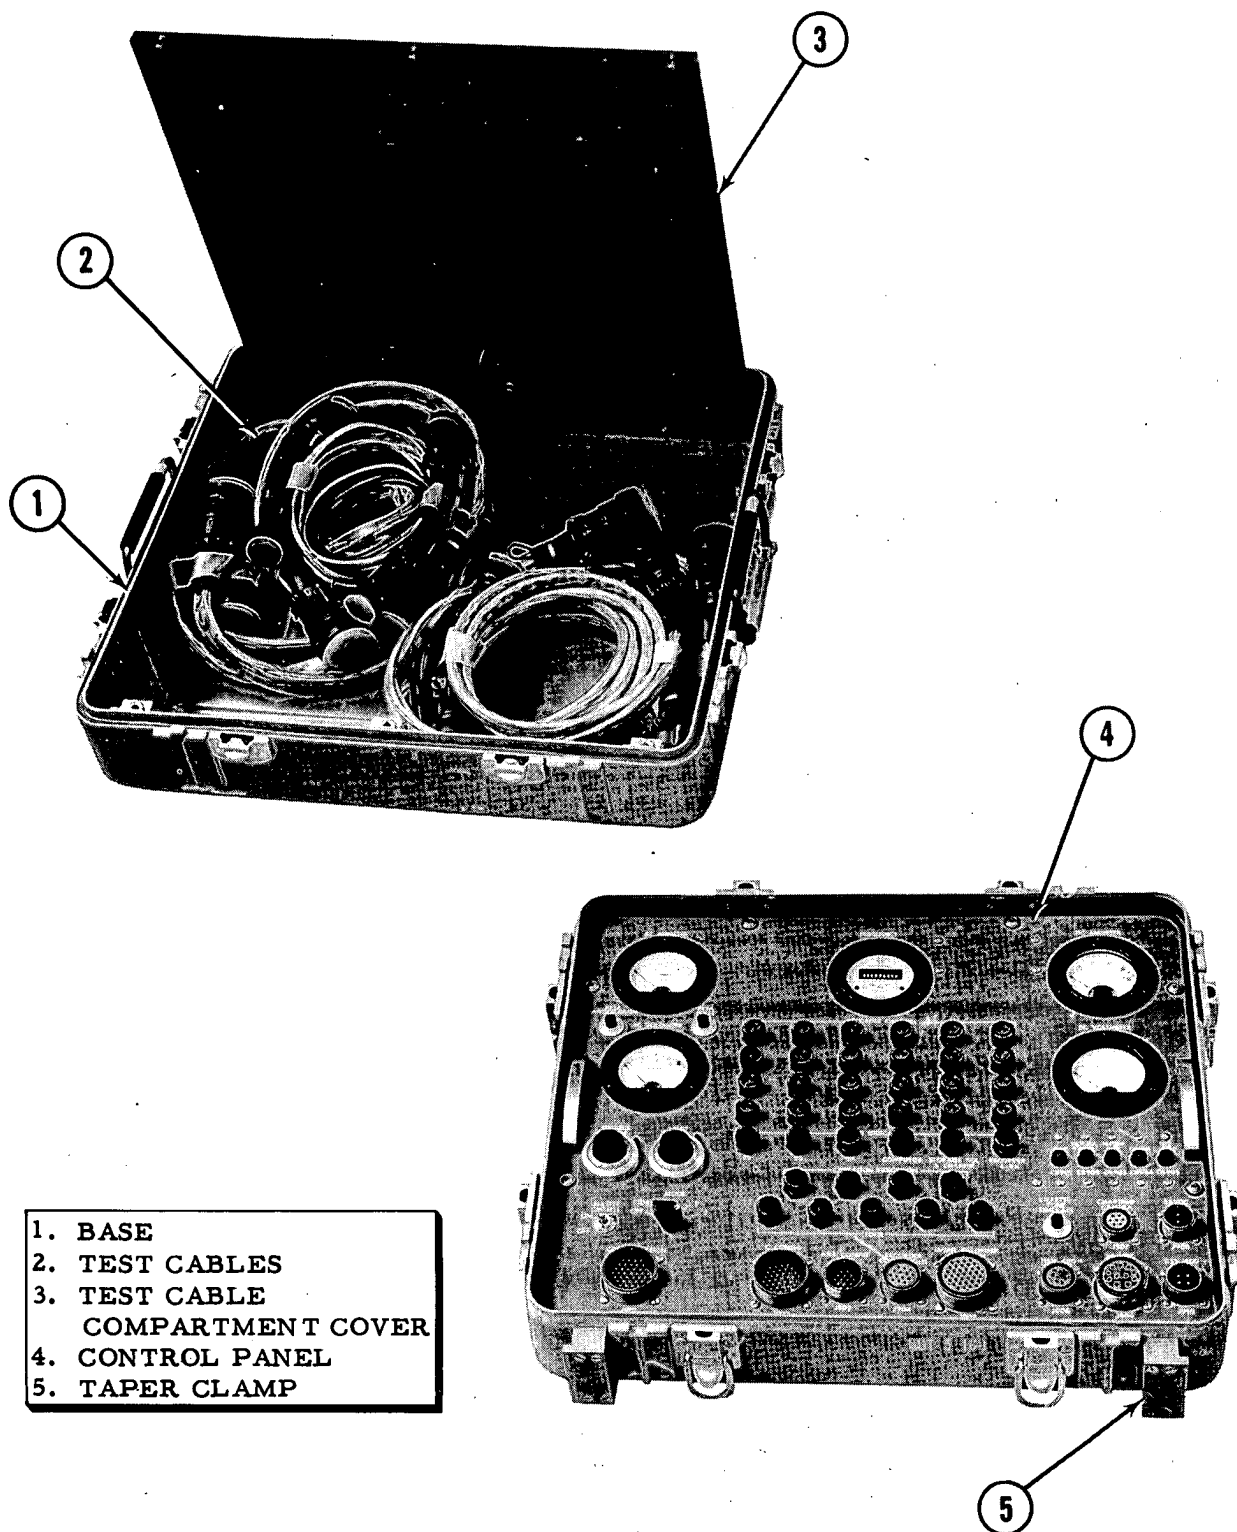

Figure 1. Electrical Test Set
1-1. GENERAL (See figure 1.)
c. Electrical Test Cables. (See figure 1.) There are nine test cables supplied with the Electrical Test Set. The test cables consist of a 115-volt, 400 cycle, power supply cable; a 28-volt dc power supply; a camera configuration 115-volt, 400 cycle, power supply cable; a 28-volt dc camera configuration power supply cable; a charter camera test cable; an event recorder test cable; a continuous recorder test cable; combination A-1, A-2, and B camera configuration test cable; and a camera configuration jumper cable. When not in use these test cables are stored in a compartment in the top cover of the carrying case.